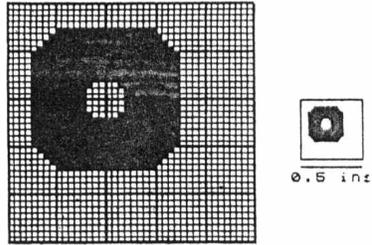

Fig 12: ScRolling the pad to a new position.
- (vi) Having drawn the pad outline we will now fill it in. To do this press 'N' for 'PEN OFF' and move the pen to the center of the area to be filled. Press 'F' for 'FILL', and the pad should have a similar shape to the pad shown in figure 12.
- (vii) Now we will position the pad to fit between the 0.1" grid, using the 'scRoll' mode. To do this press [SS]R and move the pad to the position shown in figure 12 overleaf.